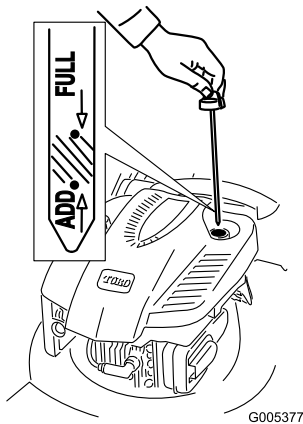

Figure 8
1. Remove the dipstick (Figure 8).
2. **Slowly** pour oil into the oil fill tube until the oil level reaches the **Full** mark on the dipstick (Figure 8).